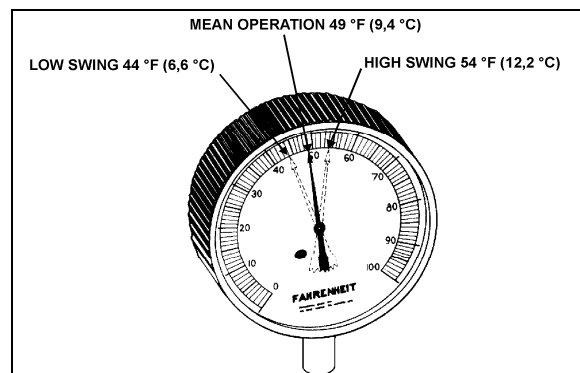

FIGURE 35: HIGH & LOW SWING TEMPERATURE AT REMOTE BULB22047
6. Check approximately 5 readings of pressure at 2-minute intervals and convert to temperature using the temperatures & pressures table (page 35). Likewise check the temperature reading at the remote bulb at the same 2-minute intervals and record the low and high swing readings of the needle (refer to Fig. 35).
Example of readings taken at fig. 35: